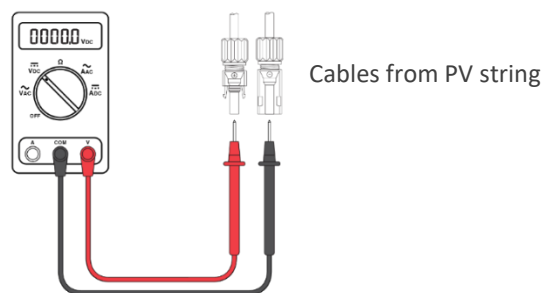

Figure 11: Check the polarity and gender for the PV string connecting to the Input
7. Follow your procedures and safety protocols to measure the voltage and verify the polarity for the string of modules being connected to Input A. See Figure 11.